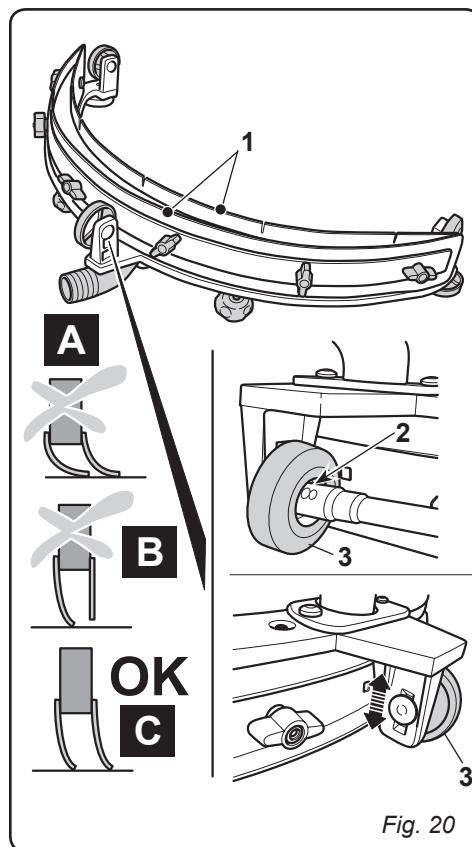

Fig. 20
11.1.g - Squeegee incidence set up (Fig. 20)
- Check the angle of incidence of the rubbers (1) on the floor.
- To set up, loosen the screw (2) of the wheel (3) and move the wheel vertically in the slot; by lifting the wheel, the angle of incidence increases, viceversa it decreases.
11.1.h - Replacing the fuses (for CB version only) (Fig. 20)